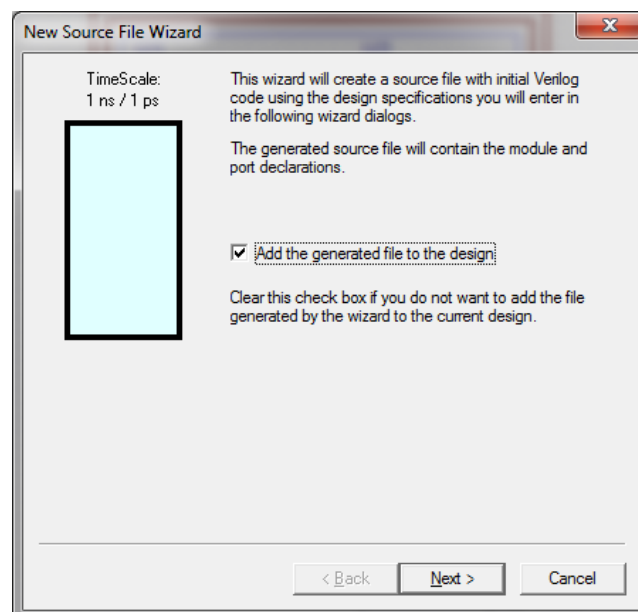

Figure 4
2. In the New Source File Wizard, make sure that the box is checked next to the “Add the generated file to the design” option (Figure 4). Click the ‘Next’ button.